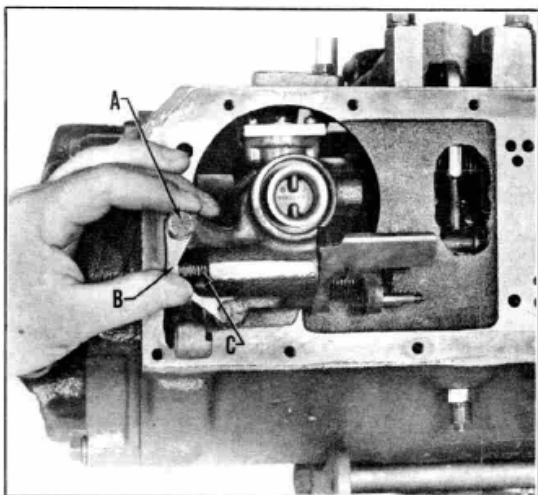

Figure 15
4. Install the parking blocker piston spring (C), Figure 15, piston release spring stop (B) and start brake bracket to case bolts into transmission case. Loosen rear pump attaching bolts.